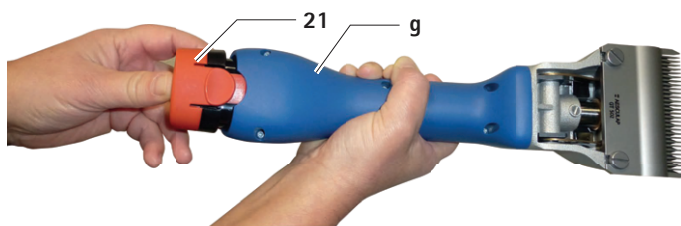

Fig. 2
- ▶ Remove the lithium ion battery **21**, and push the charged and/or uncharged replacement lithium ion battery GT641 (31NR19/66-1) into the battery-operated clipping machine **g**, see Fig. 2.